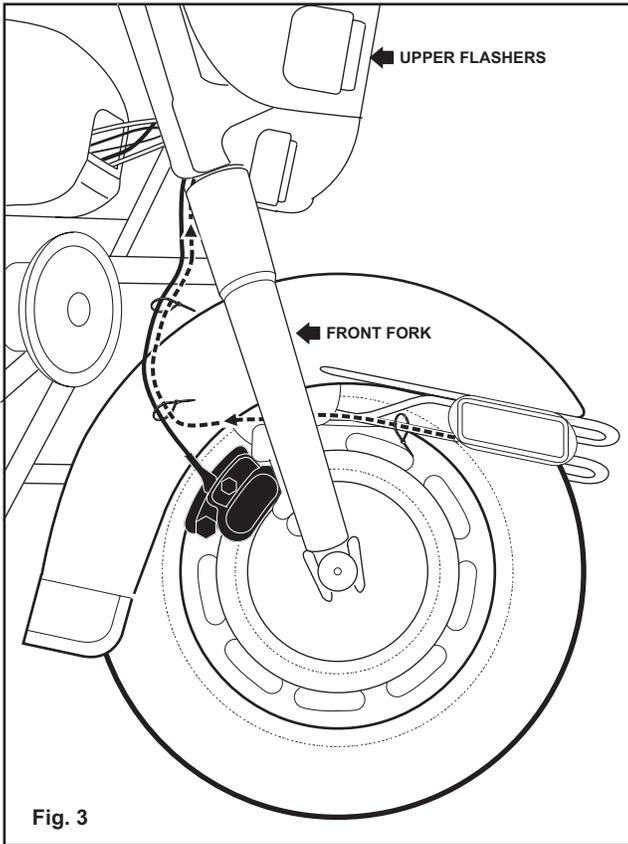

Fig. 3
1. You will need to extend the wires toward the headlight assembly where they will connect to the terminals that power the upper front flashers. As you extend the lighthouse wires, first secure them to the chrome guard the lighthouse is mounted onto with ty-wraps or other suitable fasteners as shown (Fig. 3). You will want to run the wires behind the chrome guard and front fork so they will not show.